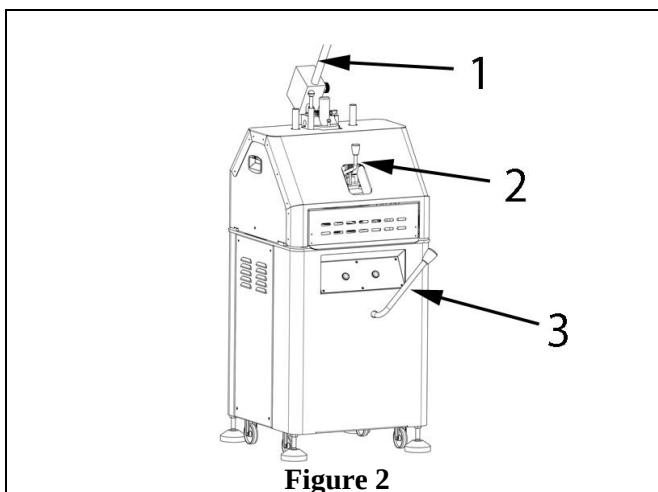
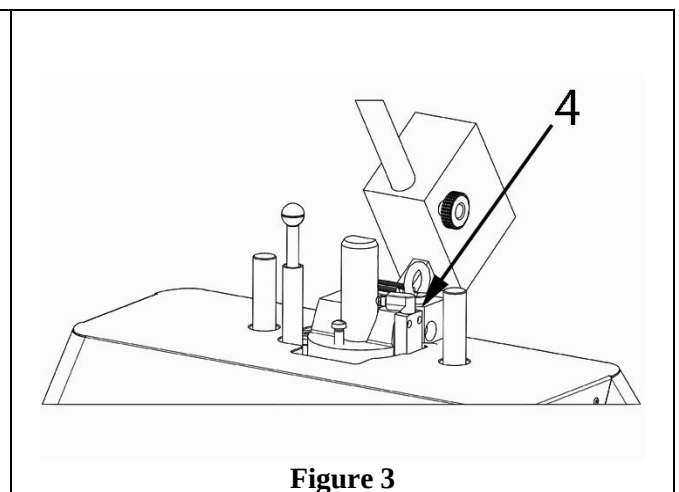

Figure 2
Figure 3
- 1) Pressure lever: pressing the lever down will flatten the dough (Figure 2, pos.1).
- 2) Cutting lever: pushing the cutting lever (Figure 2, pos.2) to the right, raises the aluminium plate and pressing the pressure lever (Figure 2, pos.1) lowers the knives thus dividing the dough. Lowering the lever and knives allow the rounding motor to work.
- 3) Rounding lever: slowly lower (Figure 2, pos.3) the rounding lever to round out the cut pieces.
- 4) Microswitch to control the pressing phase: once the pressure lever (Figure 2, pos.1) has been activated, the device (Figure 3, pos.4) starts the motor to rotate the dough tray. If the lever is not pressed fully, the turntable rotation will not start.